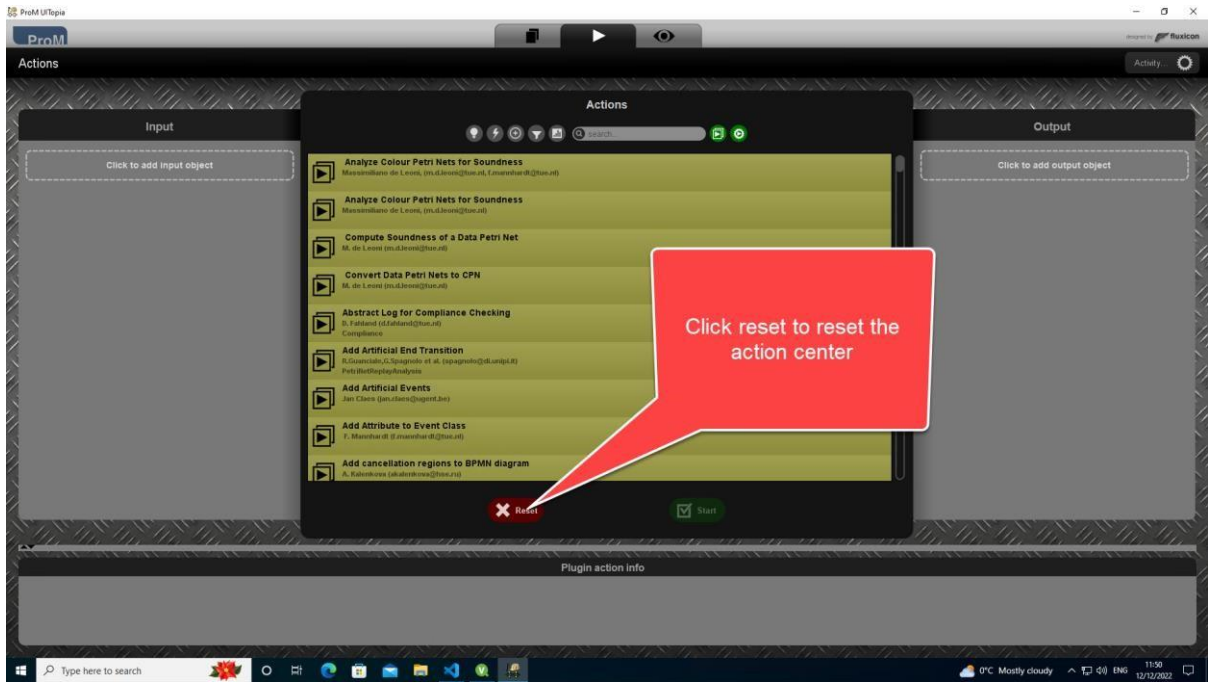

Figure 21 – Image Showing how to reset action window
17. Return to the actions screen and reset the action window as seen in figure 21.